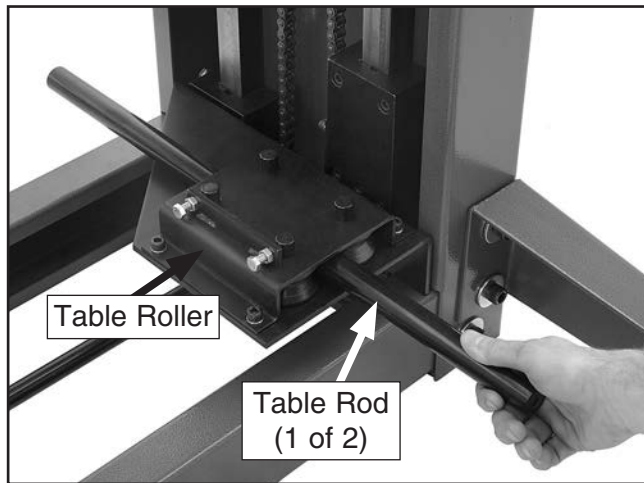

Figure 17. Inserting table rods.
10. Slide the table rods into the table rollers, as shown in **Figure 17**.